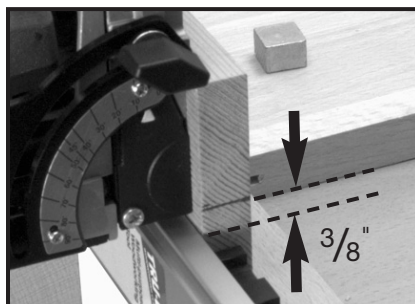

Fig. 24
4. Clamp a straight edge guide to the workpiece,  $\frac{3}{8}$ " back from the joint centerline (as marked in Step 2). Clamp workpiece securely (see Fig. 24).